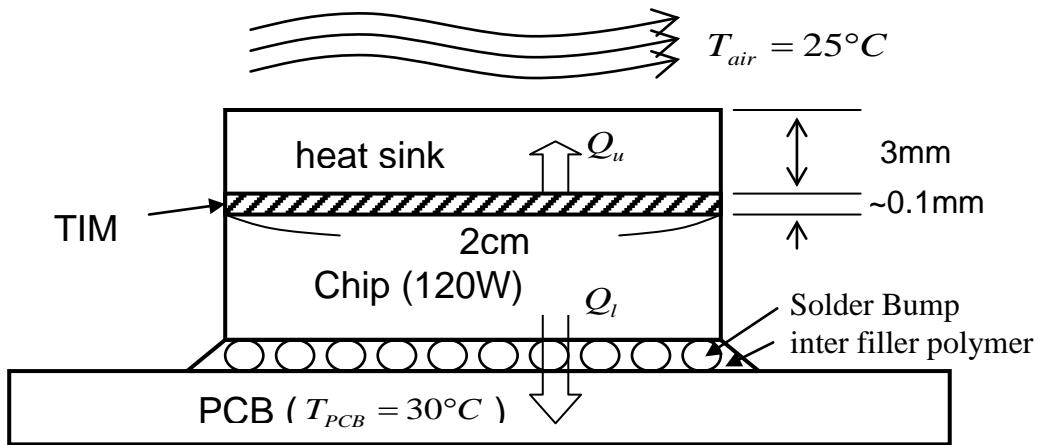

Fig. 1 Vertically integrated chip, TIM, heat sink, and solder bumps, etc.
1. A chip of 120 W is connected to a series of components vertically, see Fig. 1. The upper components are thermal interface material (TIM), heat sink and convective air (its temperature, $T_{air} = 25^\circ\text{C}$). The lower components are solder bumps (its total number is 10 units) surrounded by interface filler polymer (ifp), then to the bottom printed circuit board (PCB) whose temperature is set equal to $T_{PCB} = 30^\circ\text{C}$. Assume that the area of each component, i.e. chip, TIM, heat sink, is $2\text{ cm} \times 2\text{ cm}$, i.e., $A = 4\text{ cm}^2$. Answer to the following questions.
- (2) Compute the thermal resistance of heat sink, R_{hs} , with thickness of aluminum heat sink being 3 mm, using the thermal conductivity value of aluminum ($K_{aluminum} = 230\text{ W/(m.K)}$).
- (3) Compute the thermal resistance of TIM, R_{TIM} , where the thermal conductivity of the TIM is 1.5 W/(m.K) and its thickness is 0.1 mm.
- (4) Compute the thermal resistance of the combined solder bumps, R_{sb} , which are made of 63Sn/37Pb (its thermal conductivity = 50 W/(m.K)). The diameter of each solder bump (spherical shape) is 1 mm. Assume that only 10 balls, each having cylindrical shape with diameter of 1 mm.
- (5) Compute the thermal resistance of the inter filler polymer (ifp), R_{ifp} which is made of the molding compound (its thermal conductivity = 0.7 W/(m.K)), its thickness being the same as the height of the solder bumps, 1 mm.
- (6) Compute the equivalent thermal resistance for the entire upper route, R_{upper} , and the equivalent thermal resistance for the entire lower route, R_{lower} .
- (7) Compute the heat flow along the upper route, Q_{upper} , and the heat flow along the lower route, Q_{lower} , then, temperature of the chip, T_{chip} . Assume that $Q_{upper} + Q_{lower} = Q_{chip}$.
- (8) If the coolant (air in Fig. 1) is replaced by water coolant with its heat transfer coefficient, $h = 10,000\text{ W/(m}^2\text{ K)}$, then, calculate R_{air} , R_{upper} , and T_{chip} provide all other components' properties being the same.